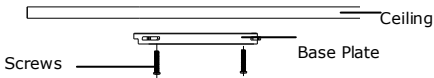

Figure 2-3 Mounting the Base Plate
5. Attach the base plate to the ceiling and secure it with the supplied 4 self-tapping screws as shown in Figure 2-3.